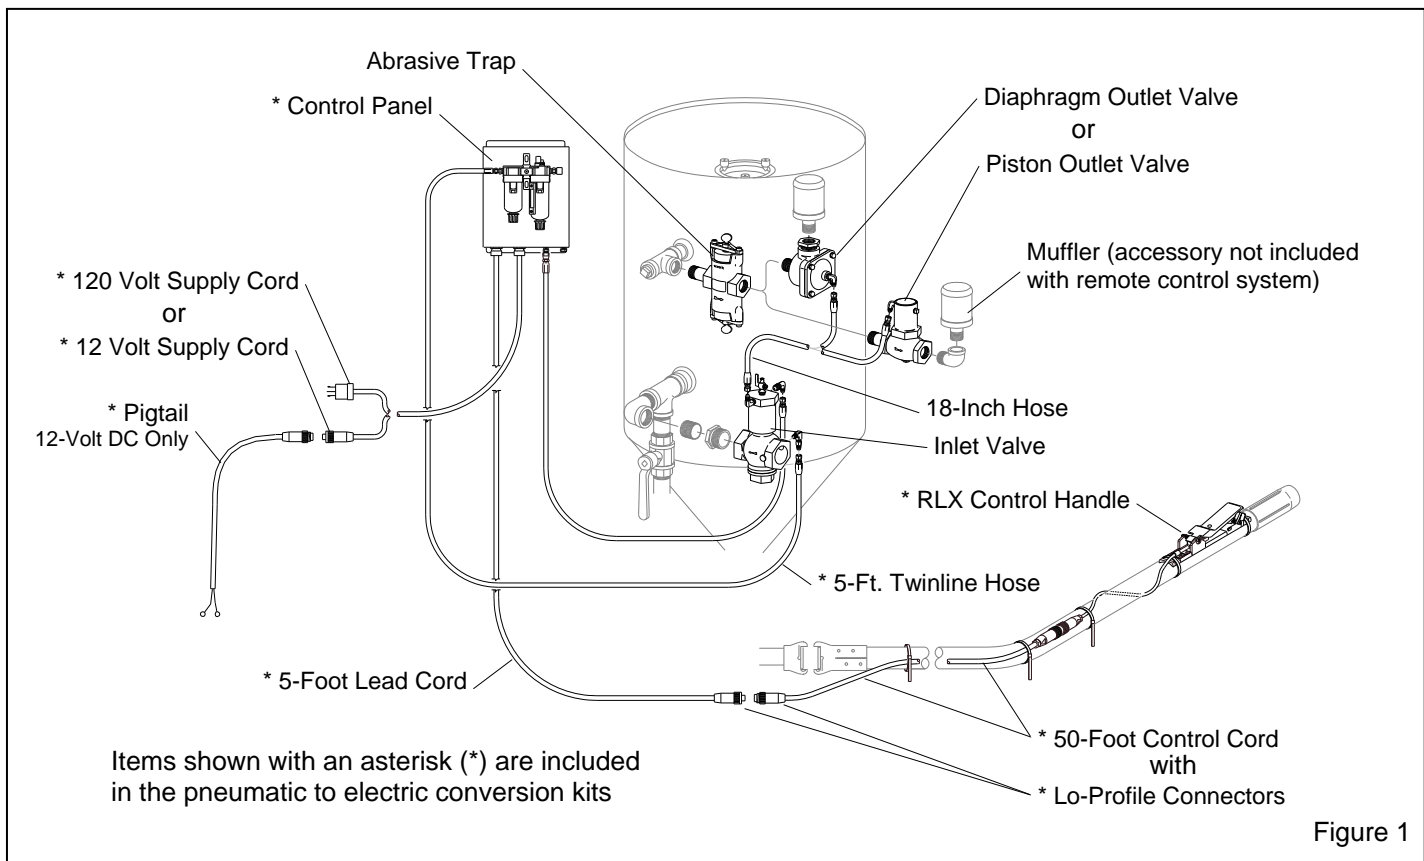

Figure 1
**1.3.3** The components of a standard system (no abrasive cut-off) are shown in Figure 1. They include the inlet valve, piston or diaphragm outlet valve (the piston valve is used in most applications, the diaphragm valve is recommended for use with fine mesh or aggressive abrasive), RLX Control Handle, 50-ft. control cord, 5-ft. twinline hose, and an 18-in. long interconnecting hose.
**1.4.2** Electric (electric over pneumatic) 100/300 remote controls operate pneumatically (See Figure 1).
## 2.3 Field Installation: Refer to Figure 1.
**2.3.3** Install the abrasive trap on the blast machine as shown in Figure 1. The directional arrow must point away from the machine, and the screen end must face up and clean-out down.
**2.3.4.1 Piston outlet valve** must have the directional arrow pointing away from the abrasive trap. Attach an elbow and accessory muffler. The muffler must face up and fully vertical as shown in Figure 1.
**Clemco supplies an exhaust muffler with all blast machines of 2 cu. ft. capacity and larger. The muffler reduces exhaust noise and prevents abrasive from exhausting upward or sideways into the air. When the blast machine depressurizes, the muffler body pops up to diffuse the air and abrasive. When the machine is fully depressurized, the muffler body drops, permitting trapped abrasive to empty. For the muffler to work properly, it must be installed with the body facing up and fully vertical, as shown in Figure 1.**